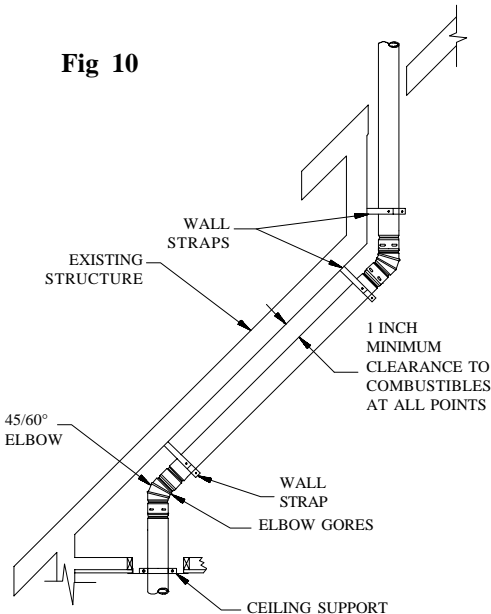

Fig 10
7. **Elbows.** When **Elbows** are required, strap the **Pipe Sections** and/or **Elbows** in place using **Wall Straps**. Support the offset so that the weight of the offsetting pipe is not bearing down on the elbows, as shown in Figure 10.